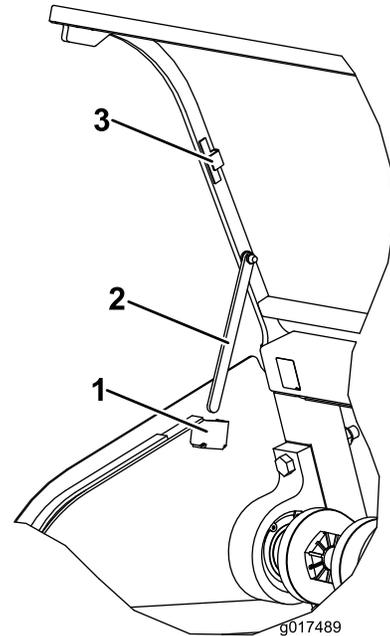

Figure 34
3. On each side of the hood, pivot the prop rod down from magnetic storage bracket and insert it into the prop rod catch (Figure 34).